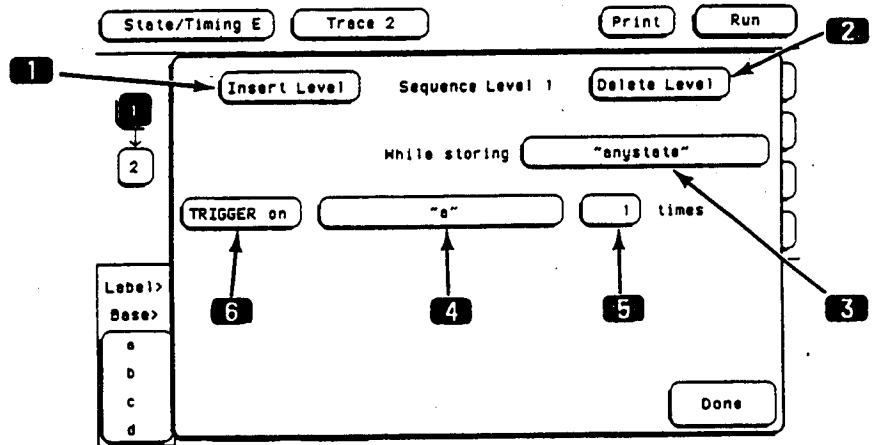

Figure 5-54. Sequence Level Pop-up Menu
Not all sequence level pop-up menus look like this one. This happens to be the trigger sequence level in which you specify the state on which the analyzer is to trigger. The trigger term can occur in any of the first seven levels, and it is not necessarily a selectable field. The fields in the menu of figure 5-54 are described on the following pages.
In the example of figure 5-54, the branching qualifier tells the analyzer when to trigger. In other sequence levels, the qualifier may simply specify a state that the analyzer is to look for before continuing to the next level.
- 6 Storage Macro** Your logic analyzer has the capability of post-trigger storage through a storage macro. The storage macro is available only in the second to last level, and it consumes both that level and the last level. The field in figure 5-54 allows you to configure the state analyzer for post-trigger storage. This field does not always say Trigger on. If the sequence level is not a trigger level, the field will say Then find, as shown below.